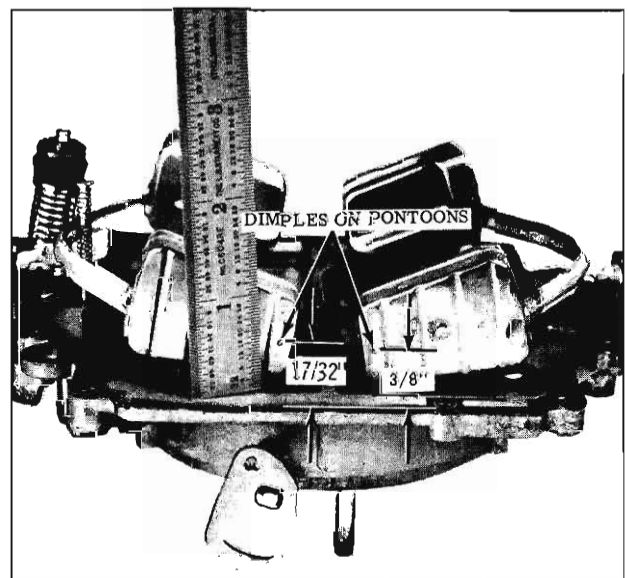

Fig. 4-164 Primary Float Level
1. With gasket in place and the air horn inverted, position Gauge BT-6310 as shown in Fig. 4-164.